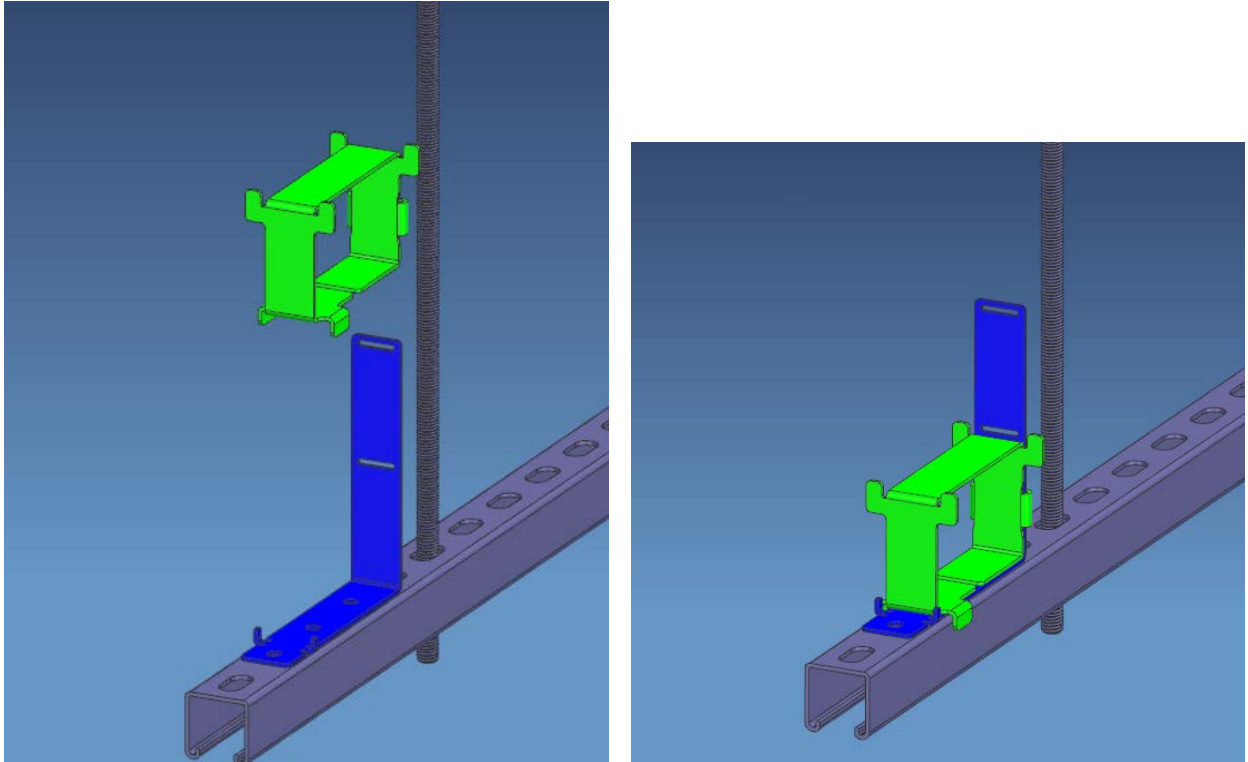

Figure 19 – Slide mid spacers onto top brackets
1. Slide mid spacers down onto base brackets, ensuring base brackets are inserted into mid spacer rear tabs (Figure 19).